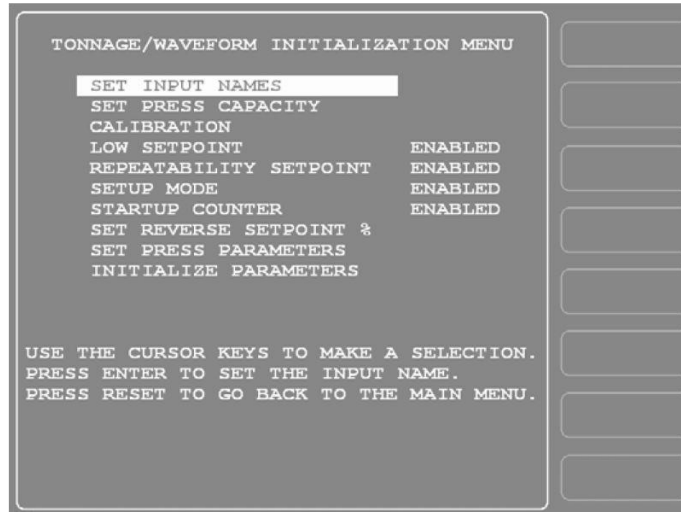

Figure 3-4. Tonnage/Waveform Initialization Menu
This section shows you how to make settings on the Tonnage/Waveform Initialization Menu (see Figure 3-4), which you access by selecting TONNAGE/WAVEFORM on the Main Initialization Menu.
4. Select the TONNAGE/WAVEFORM menu item, and press ENTER to display the Tonnage/Waveform Initialization Menu (see Figure 3-4).